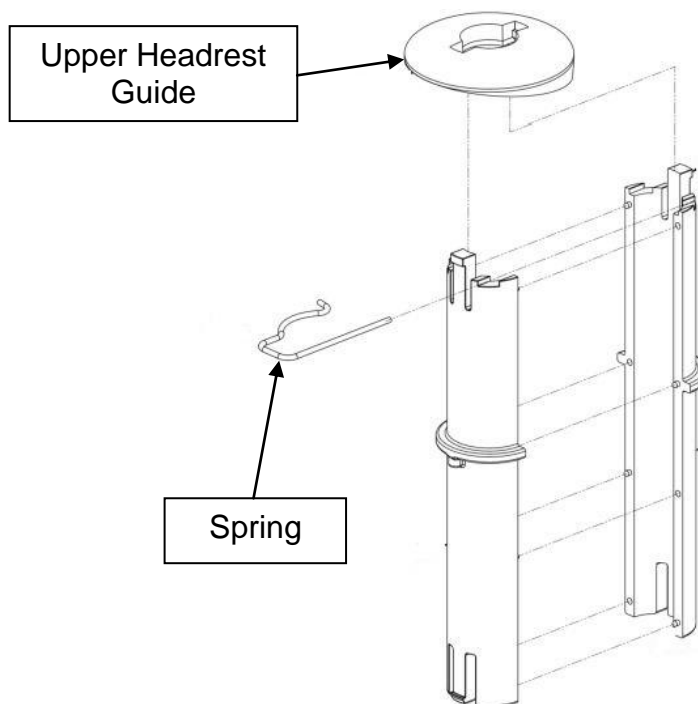

**Figure 3.4 Backrest Cover, Armrest Hub Removal**
- H. Unhook the rear flap of the bottom cover to get better access to the J- and Arrow retainer at the bottom of the backrest cover. See Figure 3.4.
- I. Unhook the J- and arrow retainers at the bottom of the backrest cover by peeling the rear part of the cover upward with 2-3 fingers. This rotates the arrow out of the J-retainer. See Figure 3.4.